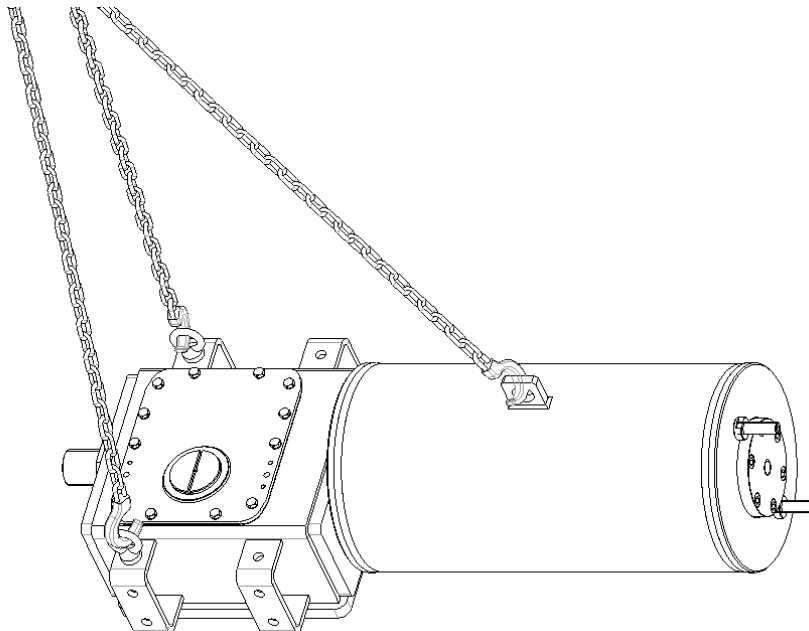

Fig. 2 – Lifting points for RTCHS actuator series
Warning: Lift the actuator as shown in Fig.2.
- Conditions in which the machinery meets the requirement of stability during use, transportation, assembly, dismantling when out of service, testing or foreseeable breakdowns, are shown in Fig.2.